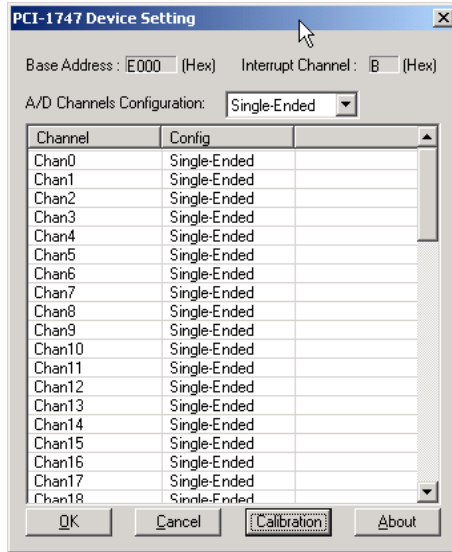

Figure 2.5: Figure 2.5 The Device Setting dialog box
Step 4: In the Device Setting dialog box (Figure 2.5), you can configure the A/D channel as Single-ended or Differential.
Step 1: Press the Setup button on the Device Manager Dialog box. Select the Single-Ended or the Differential. (Figure 2.5 Device Setting)